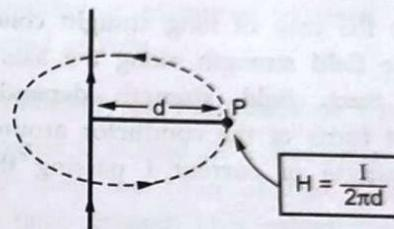

Fig. 1.9.1 (a) Field strength due to long straight conductor
- Consider a very long conductor carrying current I amperes of length 'l' meters, as shown in the Fig. 1.9.1.